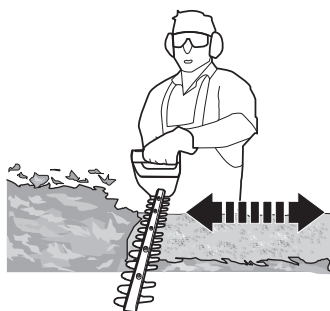

Fig. 7
8. Cut in a number of stages to achieve a better result rather than trying to cut in one go if the area being cut is particularly long (Fig. 7); smaller cuttings will allow for easy composting.